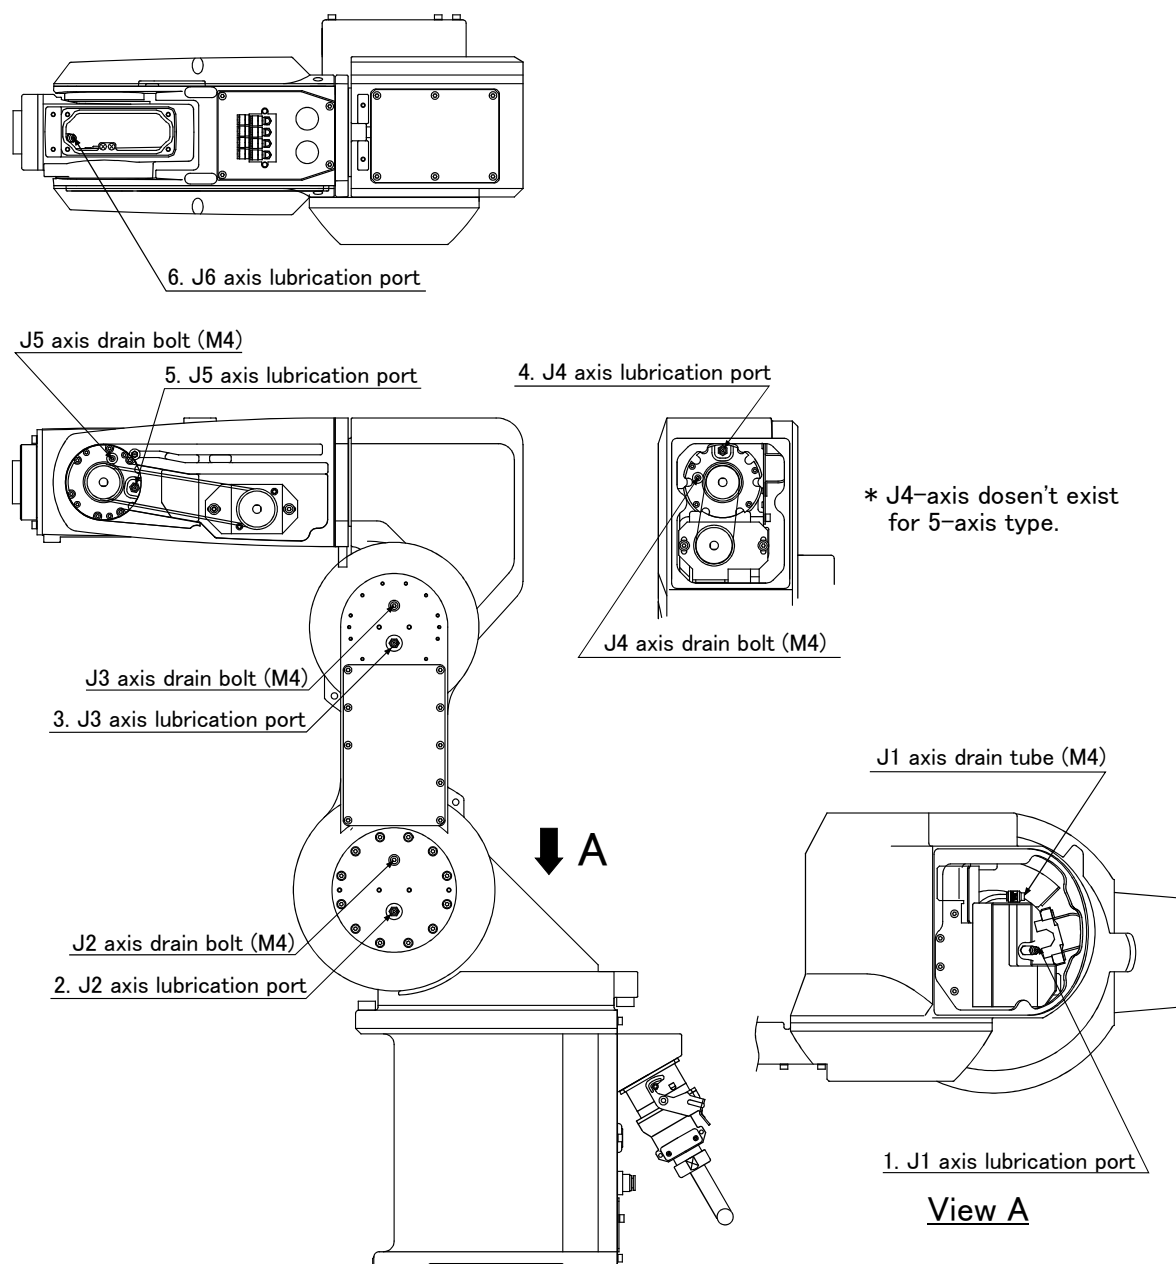

Fig.5-9 : Lubrication positions
- The numbers in the Table 5-5 correspond to the supply positions in Fig. 5-9.
(2) Lubrication method
- 1) Set the robot to the posture shown in Fig. 5-9.